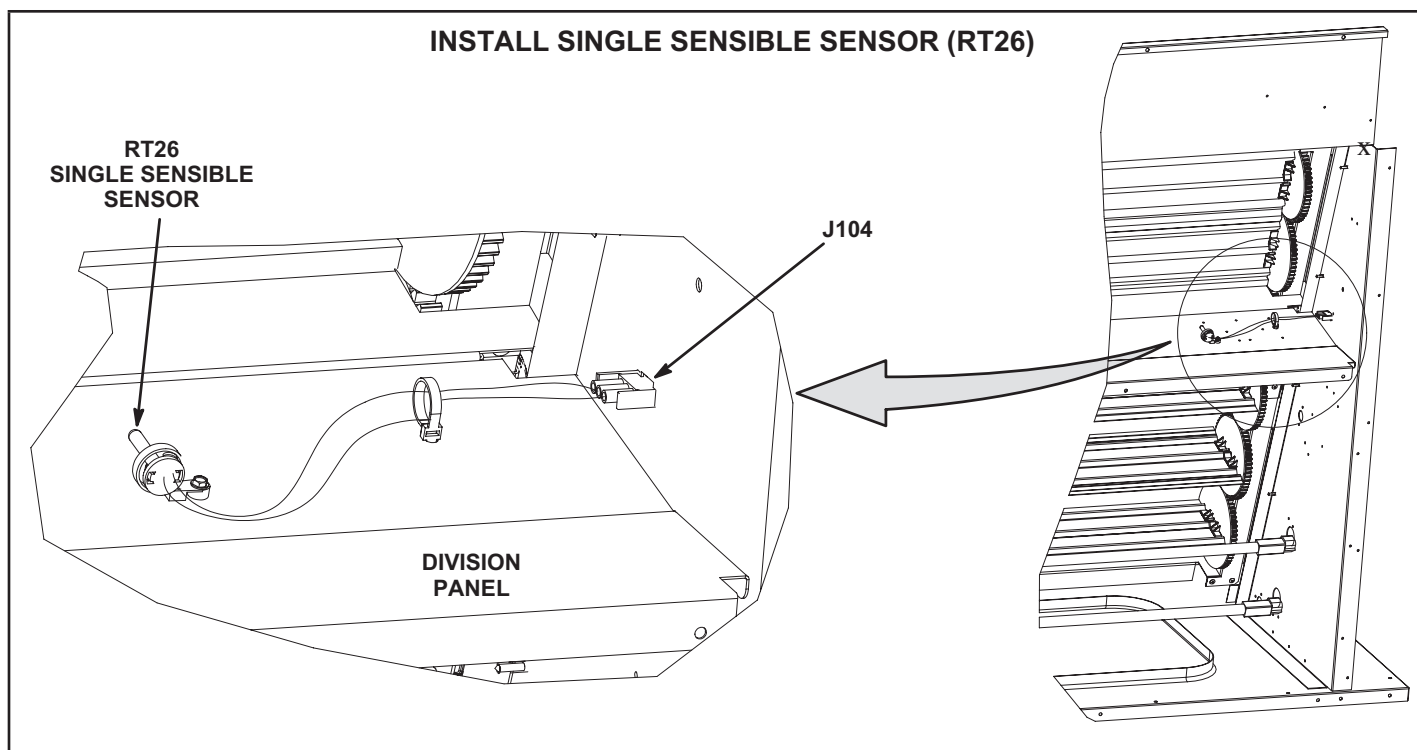

FIGURE 40
- 1 - Install RT26 sensor onto the divider panel as shown in FIGURE 40. Use #6-32 X 7/8" TFS screws provided.
- 1 - Locate brown and white kit harness with wires labeled P104-1 & P104-2 on one end and RT26-1 & 2 on the other end. Insert the connector with wires labeled P104-1 & 2 into J104 jack previously installed on the side of the economizer. See FIGURE 40. Connect wires on other end of P104 harness to RT26 on divider panel. See FIGURE 41.